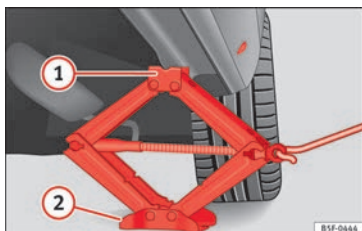

Fig. 84 Fitting the jack.
• Turn the jack* crank handle, located below the strut support point, to raise it until the tab ① » Fig. 84 is below the housing provided.
• Align the jack* so that tab ① “grips” onto the housing provided on the strut and the mobile base ② is resting on the ground. The base plate ② should fall vertically with respect to the support point ①.